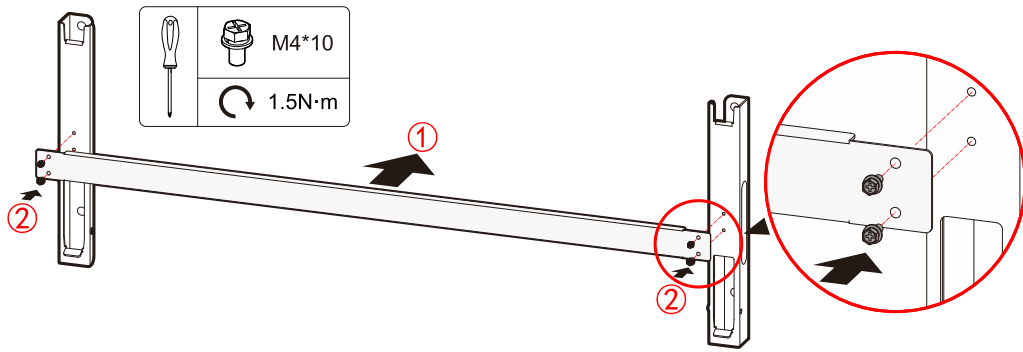

Figure3-18 Assemble installation holder
Step 1 Use the equipped four M4\*10 combination bolts to fix the installation holder with the joint lever, as shown in Figure3-18.